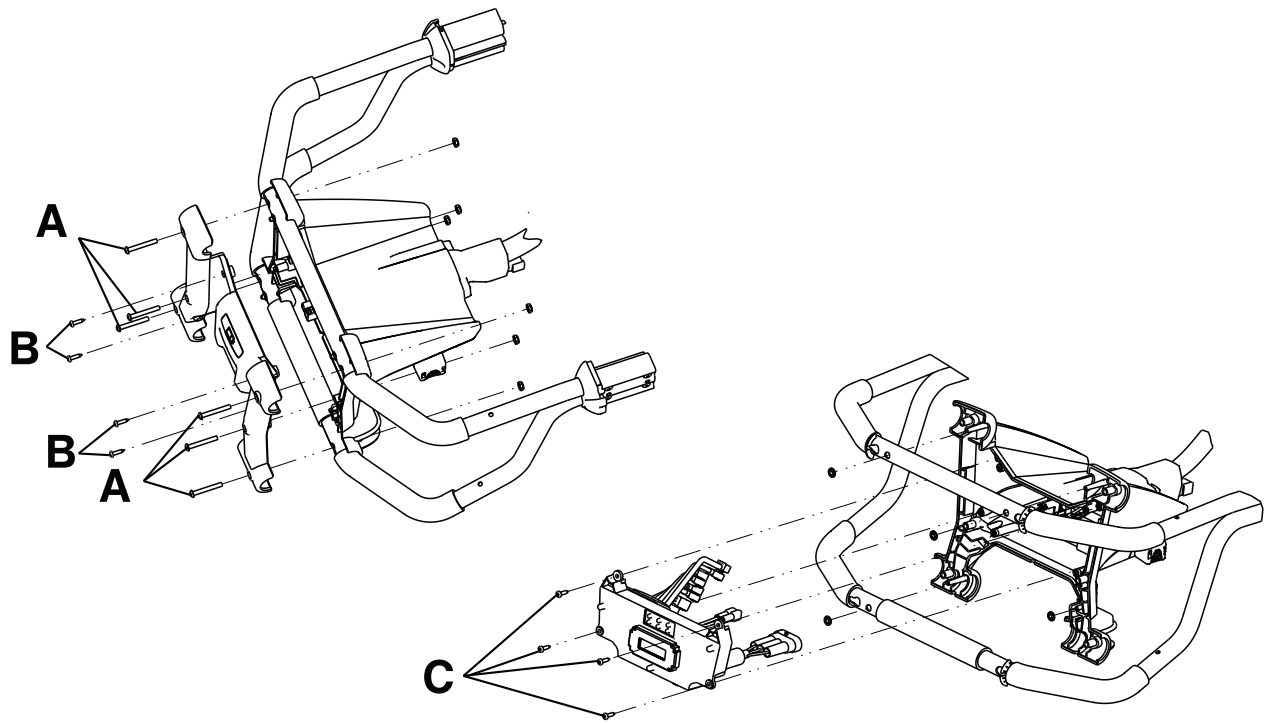

Figure 15 – Terminal block replacement
- Using a T25 Torx driver, remove the six outer button head cap screws (A) from the face plate (Figure 15). Save the screws.
- Using a T20 Torx driver, remove the four inner delta screws (B) from the face plate to remove the face plate (Figure 15). Save the screws and face plate.
- Using a T20 Torx driver, remove the four delta screws (C) that secure the electronics assembly to the foot end enclosure and pull the electronics assembly out (Figure 15). Save all parts.